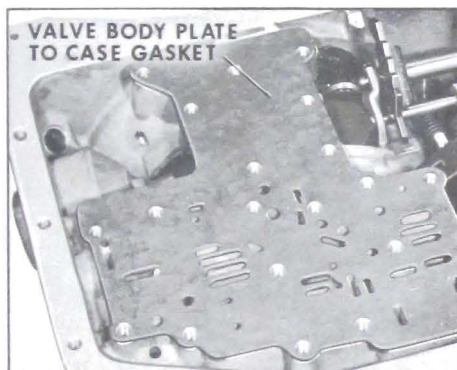

Figure 5-121
13. Remove valve body plate to case gasket. See Figure 5-121.